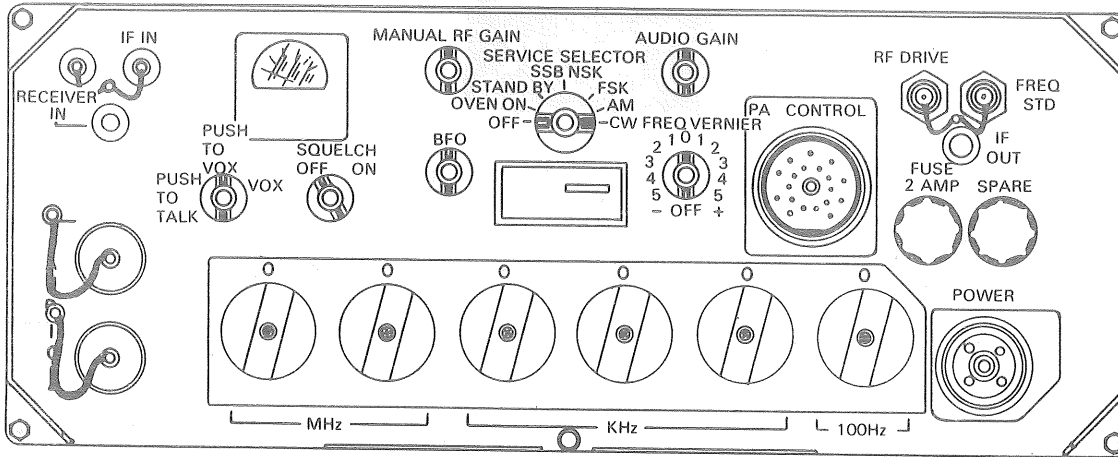

Figure 1. Receiver-Transmitter, Radio RT-834/GRC, controls, indicators, and connectors.
2. Implement preliminary starting procedures. (Refer to fig 1 thru 4, and TM 11-5820-520-12, para 3-4.)